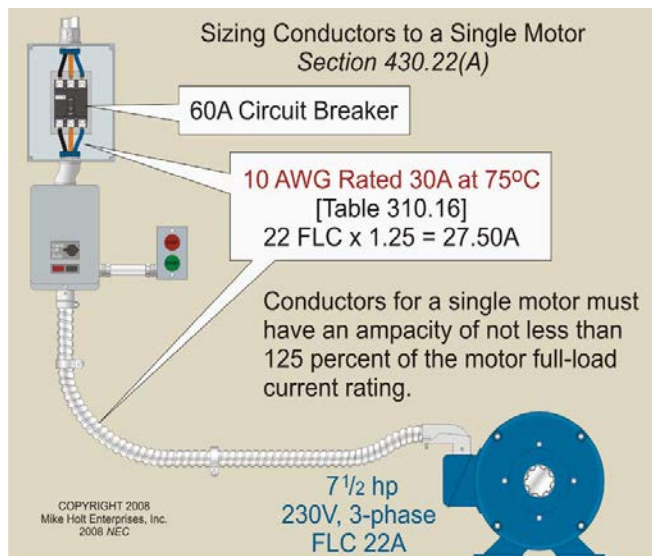

Figure 7-6
**Question:** What size branch-circuit conductors are required for a 7½ hp, three-phase, 230V motor? **Figure 7-6**